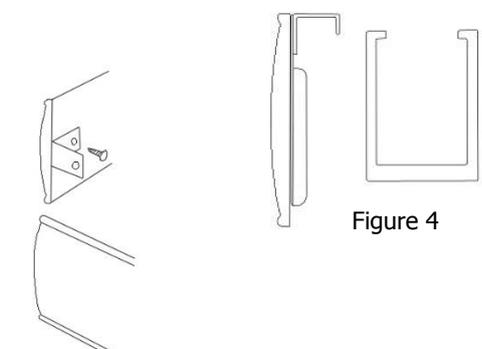

Figure 4
- Hook pelmet clip with pelmet attached onto the top of the headrail (Figure 4)
- Hook the pelmet clip with the pelmet attached onto the top of the headrail (Figure 4)